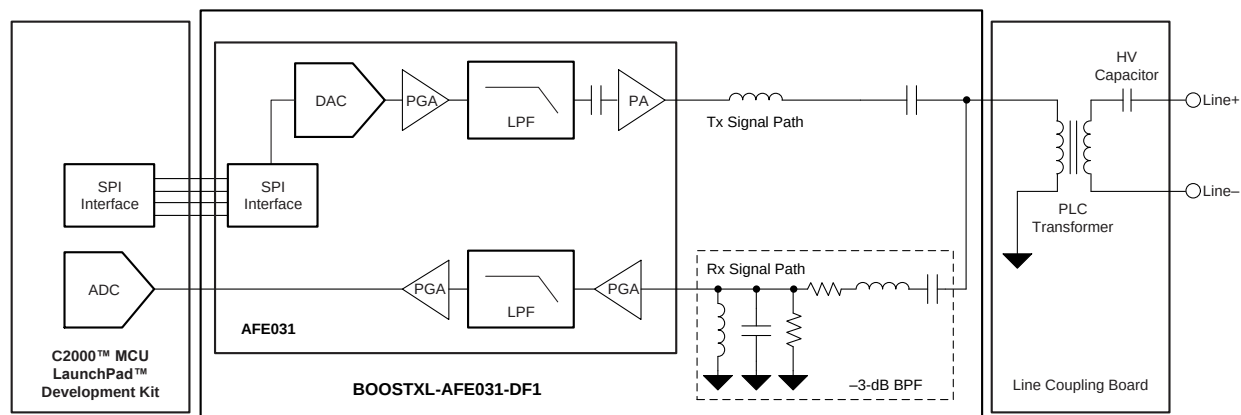

Figure 2. PLC System Diagram
Figure 2 shows how the BOOSTXL-AFE031-DF1 serves as the centerpiece of an integrated PLC system that also requires the following:
The AFE031 is capable of both capacitor-coupled and transformer-coupled connections to the target power line. The transformer-coupled solution presented in Figure 2 is designed for optimal power transfer to the load, and protects the line driver from harmful power-line transients. The high-voltage (HV) capacitor on the secondary side of the transformer is responsible for ac coupling the PLC signal to the dc power line. Table 5 lists the recommended components for the line coupling board.